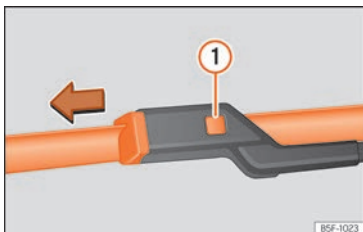

Fig. 152 Changing the windscreen wiper blades
- Press and hold release button >>> Fig. 152 ① and pull gently on the wiper blade in the direction of the arrow.